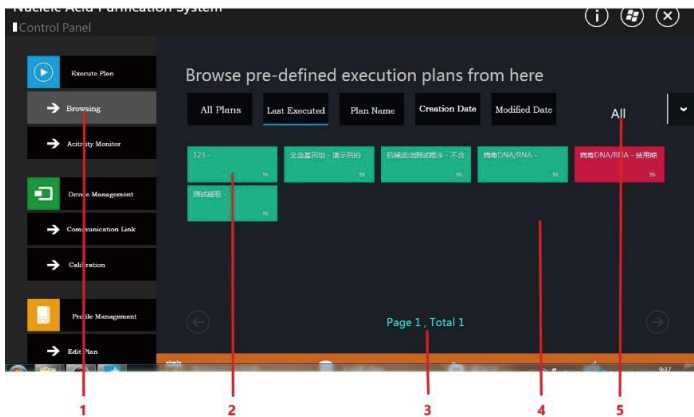

Figure 6. User Interface for Browsing Execution Plan
After clicking the "Browse and View" menu in the left function menu area of the main interface, the central operation interface area of the main interface presents the user with browsing and screening page of the execution plan, as shown in Figure 6.
① in Figure 6 shows the "Browse View" menu. Clicking the menu, the central operation interface area will pop up, see ④ in Figure 6. As illustrated in ② in Figure 6, each colored box represents a stored execution plan in the system, which indicates the name of the execution plan and descriptive information. There are four box colors, namely green, blue, red and purple, which represent different sample types targeted by the execution plan respectively. The corresponding relationship between the background colors of different execution plan boxes and sample types is shown in Table 1:
③ in Figure 6 represents the paging column. When numerous execution plans are stored in the system, the execution plans will be displayed in pages, with a maximum of 20 execution plans displayed on each page. Users can click the arrow " $\leftarrow \rightarrow$ " in the paging column to browse by page.
⑤ in Figure 6 represents the sorting and screening column, which enables user to sort and screen the execution plans in the system and facilitate users to find specific execution plans. For example, the "Recent Execution" shown in ⑤ in Figure 6 indicates that user sorts the execution plans according to the recent operation.